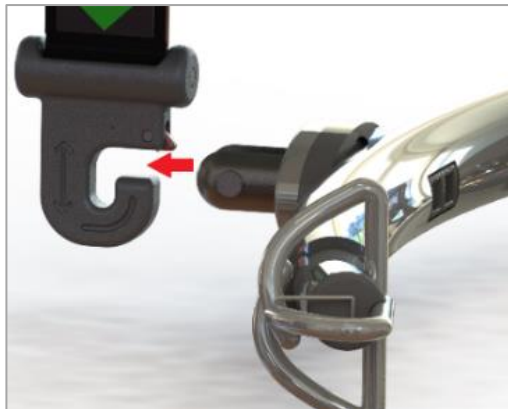

Figure 10-2
2. Hold the carry bar horizontally and insert the boss into the QRS hook. (See figure 10.2)